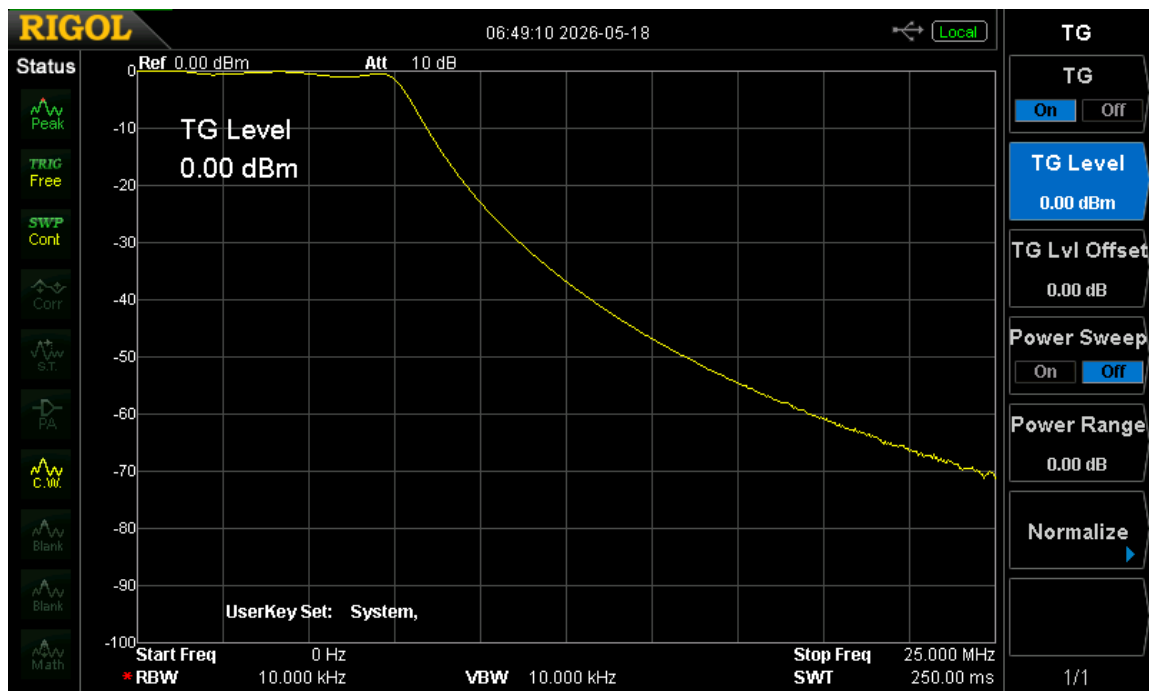

Figure 2: Chebyshev Low-Pass Filter Bode Plot
When transmitting, the MCU reprograms the Si5351 clock generator's output for each of the eight FT8 Frequency Shift Keying (FSK) tones, a direct FSK scheme, unlike the audio FSK (aFSK) widely used with a SSB transmitters' microphone jack connected from a laptop headphone circuit. Frequency stability is achieved by locking the Si5351 to a low jitter Temperature Controlled Crystal Oscillator (TCXO) reference. The Si5351's output is buffered by one element of a SN74ACT244 octal bus driver whose remaining seven buffers function in parallel as the transmitter's power amplifier (PA). A five-pole Chebyshev low-pass filter (Figure 2) with 1 dB of ripple peaking near the expected operating frequency provides harmonic rejection. The PA delivers 275 mW through the filter.